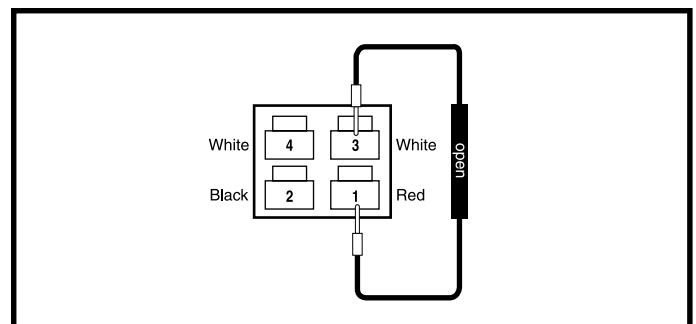

Figure 22. Connector 9a - Pins 1 and 3
2. Measure resistance across pin 1 (red) and pin 3 (white) and across pin 1 (red) and pin 4 (white) on connector 9a. **See figures 22 and 23.**
- If your multimeter indicates an open on both tests, then replace the VSI controller (1) and retest the system.
- If your multimeter does not indicate an open on both tests, then replace the left motor (9) and retest the system.